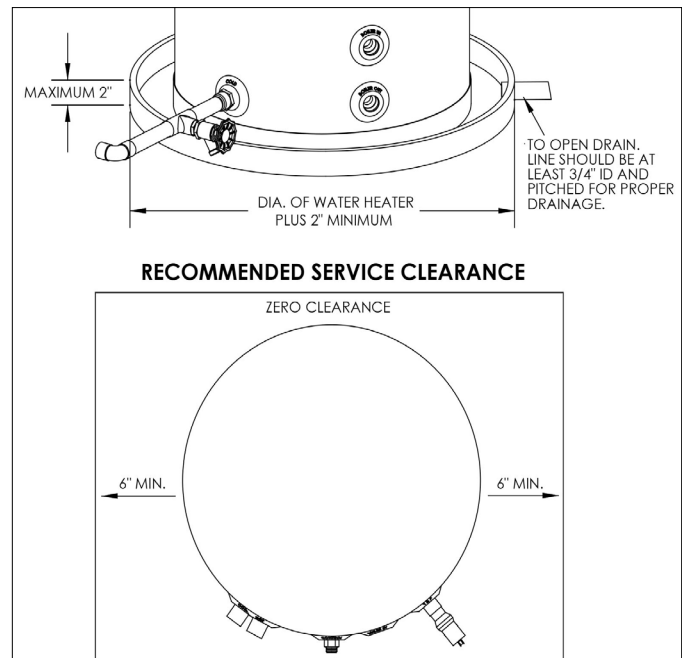

Figure 1 - Drain Pan Installation and Recommended Service Clearances
**NOTE:** If you do not provide the minimum clearances shown in Figure 1, it might not be possible to service the water heater without removing it from the space.